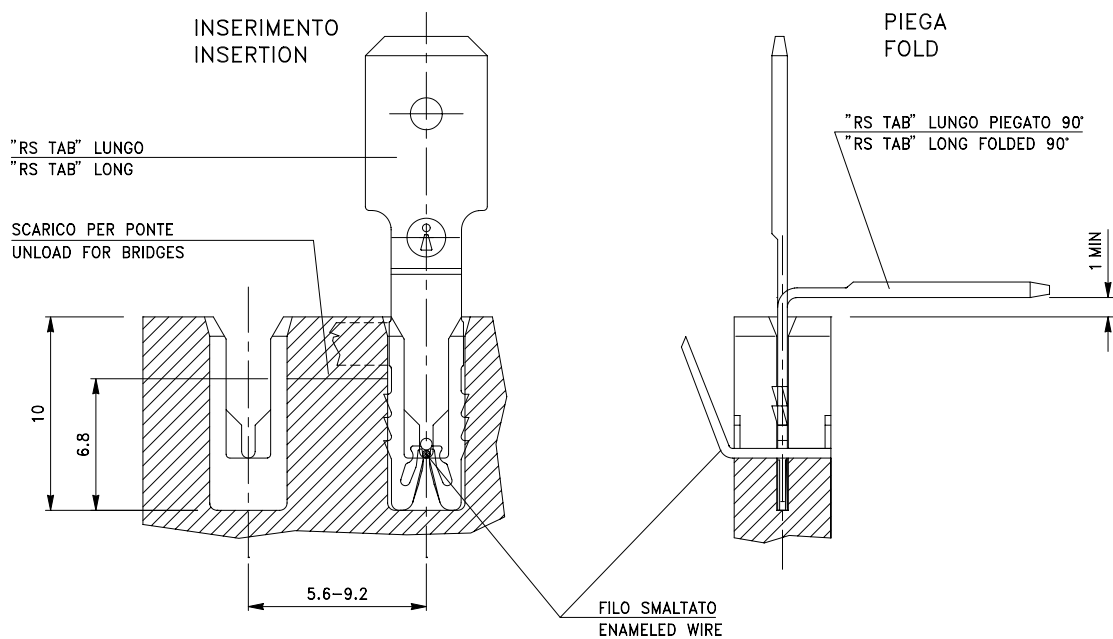

Fig.9
**b-** The connection by means of the articles "RS-TAB" takes place directly on the wires and therefore with a vertical out-let in respect to the stator. If a horizontal out-let is requested the connection will be made by means of the appropriate article "RS-TAB" which is longer than the others and which is folded at 90°, after the insertion phase, with the suitable machine (see figure 9).